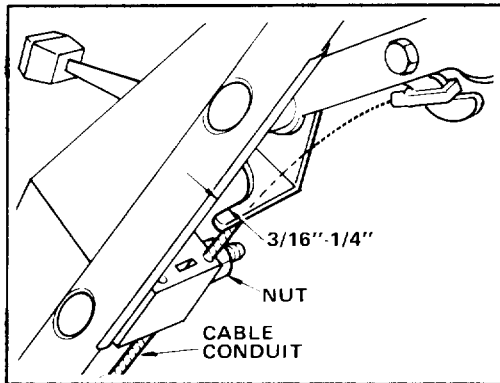

Figure 20
(Fig. 20)—Move control bar toward handle until slack in wire is removed. Gap between brake lever and handle must be  $3/16"$  –  $1/4"$ . See step 3 for adjustment.
**3. ADJUST CABLE CONDUIT**—Loosen nut on cable bracket (Fig. 20). Insert  $3/16"$  –  $1/4"$  object between brake lever and handle. Pull down on cable conduit until slack is removed. Then tighten nut.